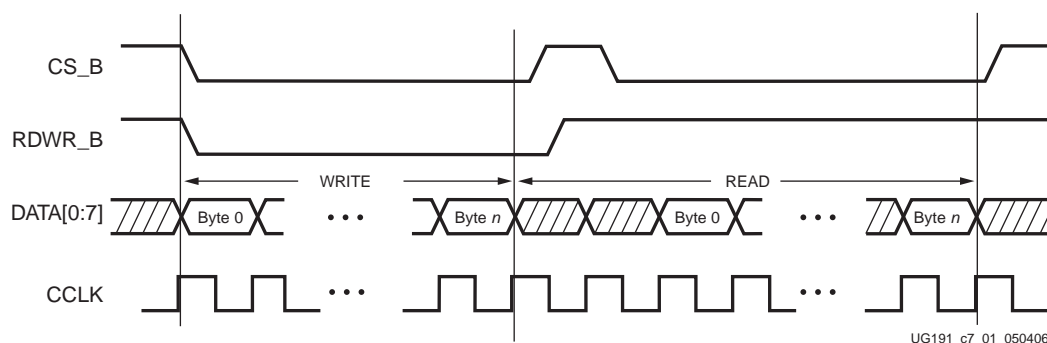

Figure 7-1: Changing the SelectMAP Port from Write to Read Control
5. This procedure is illustrated in Figure 7-1.